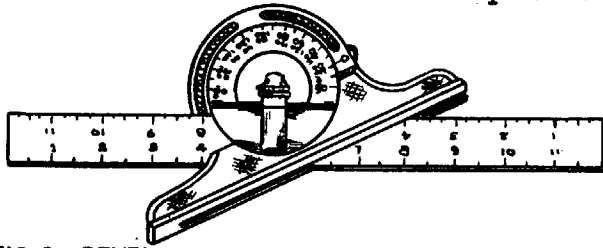

FIG.8 BEVEL PROTRACTOR
2. Extend the blade to the required length and tighten (Fig.8).